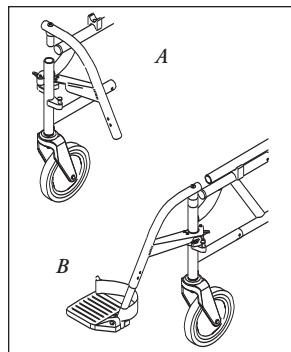

Figure 5
C. SWING-AWAY HANGERS AND FOOTRESTS (60°, 70°, 70°V OR 90°)**1. Installation (Fig. 5)**
- Place swing-away pivot saddle into the receiver on front frame tube with the footrest facing outward from the frame. (Fig. 5-A)
- Rotate the footrest inward until it locks into place on locking bolt. (Fig. 5-B)